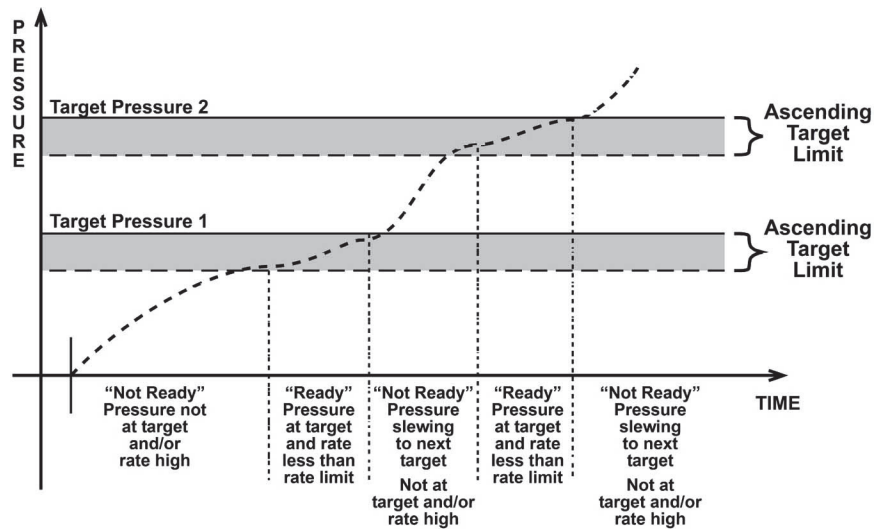

Figure 15. *Ready/Not Ready* in monotonic pressure control mode
Figure 15 illustrates *Ready/Not Ready* operation in monotonic control mode.
*Note that Figure 15 plots rate of change of pressure, not pressure.